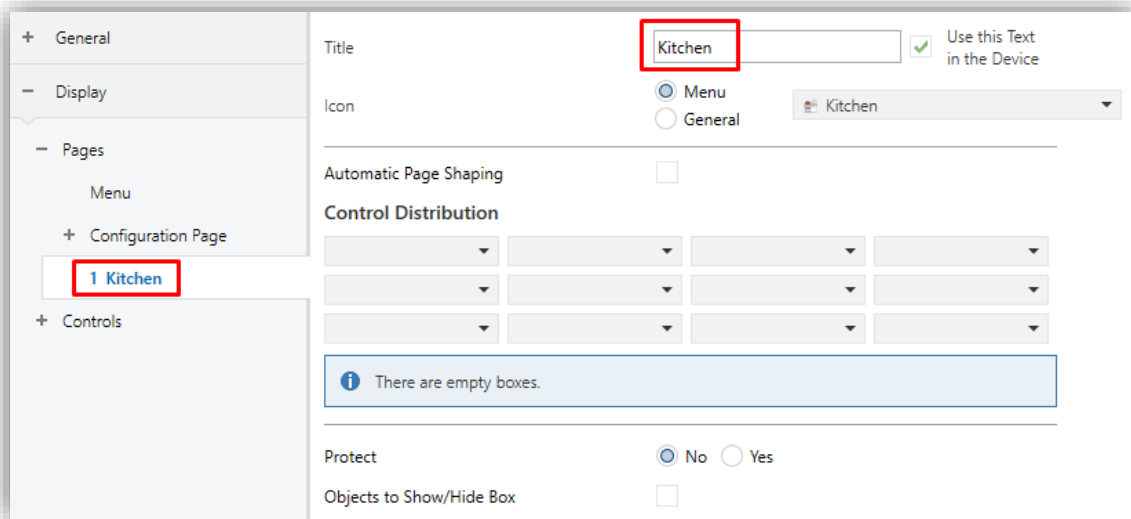

Figure 67. Configuration Page n
- **Title:** text field that identifies each of the enabled pages. In addition, this field allows changing the name of the tab in ETS left menu, as shown in the Figure 67.